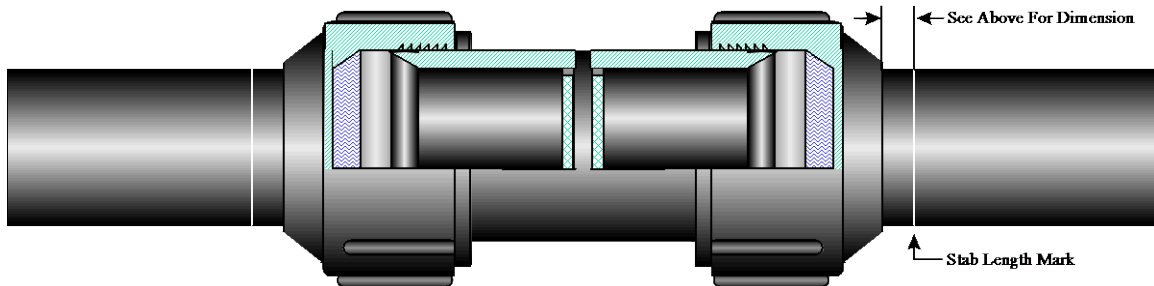

Figure 2
6. Tighten the compression nut until it shoulders against the body of the coupling. **Do Not Over Tighten.** If you cannot see the stab mark or the end of the compression nut is not within the distances listed below, reassemble the fitting. See figure 2.